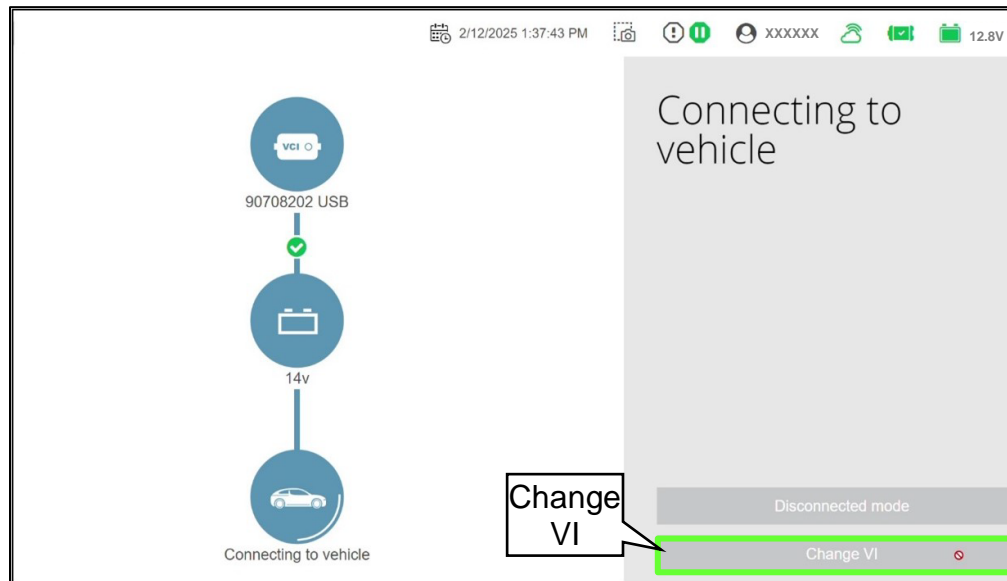

Figure 5
5. Allow the VI3 to connect to the vehicle (Figure 5).